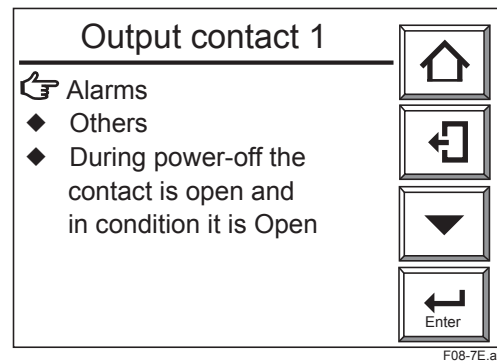
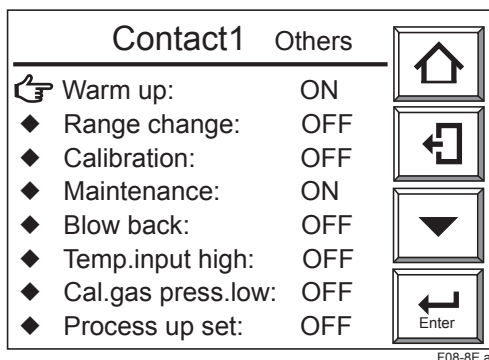

Figure 8.7 "Output Contact 1" Display
Figure 8.8 "Contact1 Others" Display
- (4) Select the desired Output contact. This section shows an example where "Output contact 1" is selected (see Figure 8.7).
- (5) Each set item and the selected items are briefly described in Table 8.6. The following describes an example of setting where Output contact 1 is closed during calibration.
- (6) Select "Others" in the Output contact 1 display. The "Contact1 Others" display shown in Figure 8.8 then appears. Select "Calibration" in the Contact1 Others display.
- (7) The ON or OFF selection display then appears. Select "ON" herein.
- (8) Press the [Reject] key to go back to the previous display.
- (9) Move the pointer to "During power-off the contact is open and in condition it is Open" and press the [Enter] key. The "OFF" or "ON" selection display then appears. If you select "OFF," this means "Open" in normal conditions and "Closed" when the contact output is on.